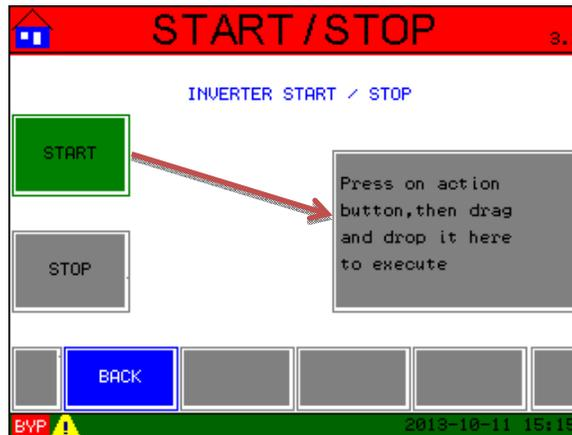

Fig. 4-41
Step 9: The “start/stop” screen will appear. To actually execute the start sequence the “start” action button must be pressed AND dragged to the larger gray square to the right (Fig.4-41).